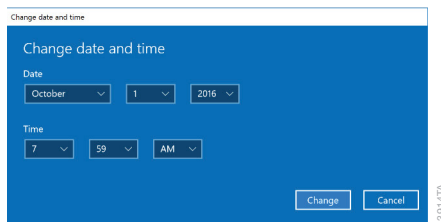

Figure 124. Adjusting date and time. Use the drop-down menus on the 'Change date and time' screen to adjust the displayed date and time on the Tablet PC.
- h. On the 'Change date and time' screen (Figure 124), use the drop-down boxes to select the appropriate date and time for your location.